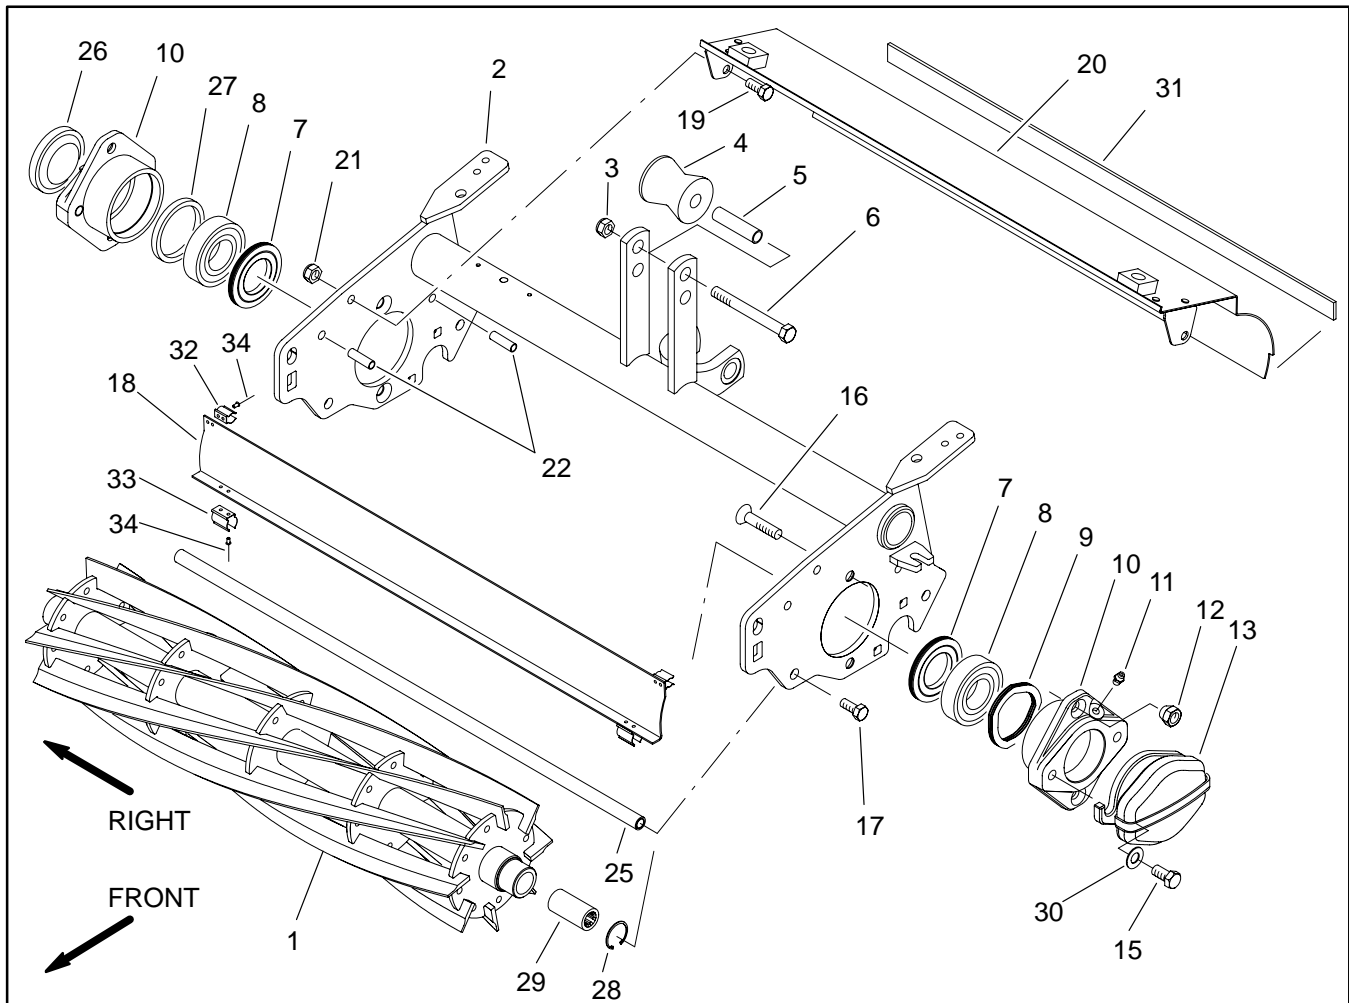
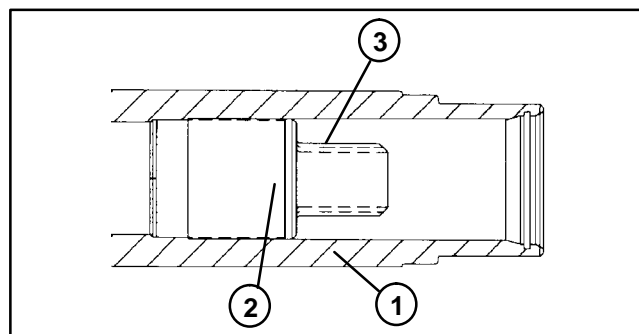
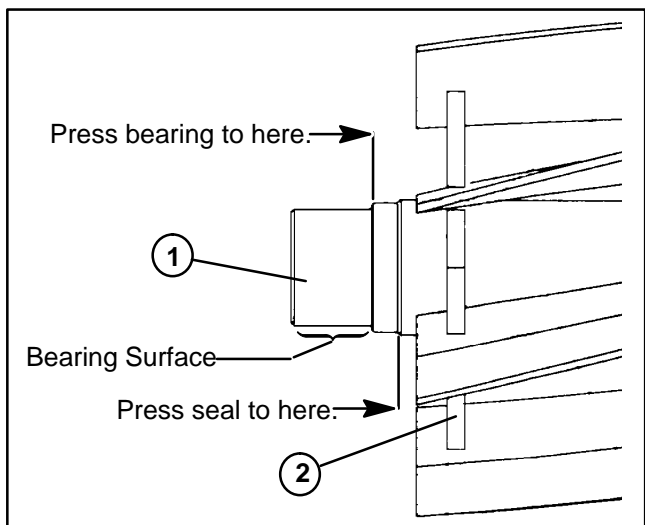

Figure 40
Figure 41
Figure 42
### Removal (Fig. 40)
1. Inspect drive coupler (29) as follows (Fig. 40):
- A. Remove retaining ring (28) and drive coupler from the reel shaft (1).
2. Inspect reel (1) as follows:
- C. Check drive adapter inside of reel shaft. Adapter should be free of bending and distortion. Check splines for excessive cracks and distortion. Replace reel if necessary (Fig. 41).
3. Inspect bearings (8) and grease seals (7) as follows (Fig. 40):
## Installation (Fig. 40)
**Note:** If bearings (8) were removed, grease seals (7) should be replaced. Both bearings should be replaced as a set.
1. If bearings (8) and grease seals (7) were removed from the reel shaft (1), install seals and bearings to the shaft as follows:
B. Clean bearing surfaces of reel shaft. Apply anti-seize lubricant to both bearing surfaces (Fig. 42).
**IMPORTANT: Pressing the seal too far onto the reel shaft will cause the seal to spread, and not allow it to be tight on the shaft (Fig. 42).**
C. With the lip side of the seal facing the reel spider, press seal onto each end of the reel shaft (Fig. 42).
D. Press bearing onto each end of the reel shaft (Fig. 42).
**IMPORTANT: Do not install the flat wire spring (9) into the right bearing housing. Damage to the spring may result as well as increased noise and poor quality of cut.**
2. Install right bearing housing (10) as follows:
A. Insert bearing housing (10) into the right sideplate of the frame so that the grease fitting (11) is facing up.
B. Apply Loctite 242 or equivalent to the threads of the two tapered screws (16).
C. Insert both tapered screws (16) through the side plate and bearing housing (10). Start tapered nuts (12) onto screws.
D. Place bearing spacer (27) into the bearing housing (10).
3. Position reel (1) into the cutting unit frame. Slide end of reel into bearing housing (10) while keeping the bearing (8) straight.
4. Install left bearing housing (10) as follows:
A. Insert bearing housing (10) into the left sideplate of the frame over the bearing (8). Make sure the grease fitting (11) is facing up.
C. Insert both tapered screws (16) through the side plate and bearing housing (10). Start tapered nuts (12) onto the screws.
D. Place flat wire spring (9) into the bearing housing (10).
5. Reinstall shield rod (25) to the frame. Secure rod with both hex head screws (17).
6. Tap both bearing housings (10) with a soft hammer to seat bearings (8). Tighten tapered nuts (12) to secure housings.
7. Insert drive coupler (29) into end of reel shaft (1) to accept hydraulic reel motor. Make sure splines of coupler mesh with those of the drive adapter. Secure coupler with retaining ring (28) (Fig. 40 and 41).